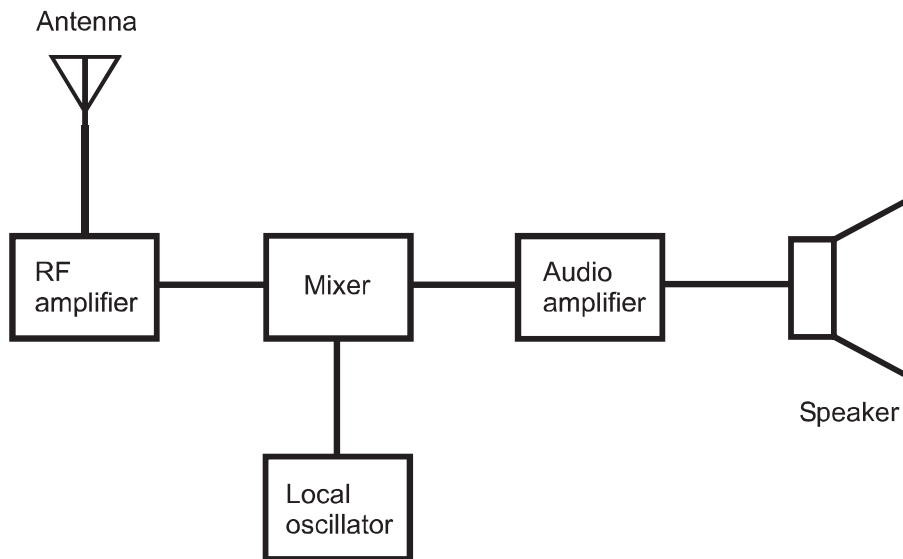

**Fig. Test3-3.** Illustration for Part Three Test Questions 24 through 26.
24. Figure Test3-3 shows a tuned loop antenna. The inductance of the loop,  $L$ , is 100 microhenrys ( $\mu\text{H}$ ). The capacitor is set for a value of  $C = 150$  picofarads (pF), which is the equivalent of 0.000150 microfarads ( $\mu\text{F}$ ). The formula for the resonant frequency  $f_o$ , in megahertz (MHz), for a tuned inductance-capacitance circuit where  $L$  is the inductance in microhenrys and  $C$  is the capacitance in microfarads is given by the following formula:
25. Refer to Fig. Test3-3. If the variable capacitor is adjusted so its capacitance increases, the resonant frequency of the tuned antenna
26. Refer to Fig. Test3-3. If more turns are added to the coil so its inductance increases, but the capacitor setting is left the same, the resonant frequency of the tuned antenna